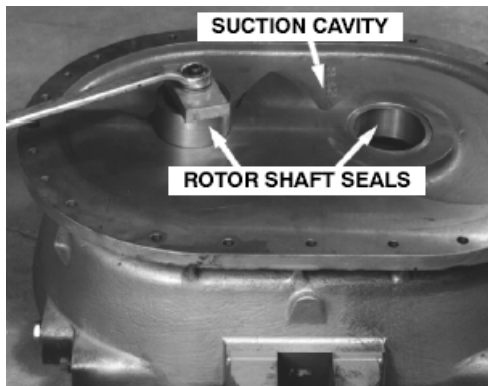
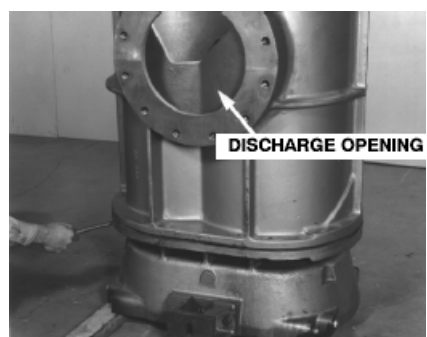

FIGURE 7-1 – ROTOR SHAFT SEAL
FIGURE 7-3 – DISCHARGE OPENING
1. Oil the O.D. of the rotor shaft seals (22, 23) to prevent seizure and press into each bore of the gear end bearing carrier (5) (FIGURE 7-1, page 41). NEVER REUSE SHAFT SEALS. Refer to "Rotor Shaft Seals," page 28, for an explanation. A simple press utilizing a bolt and two bars, one across the seal and one underneath across the bearing bore, is an effective method for installing the seal. Tightening the nut on bolt presses the seal into place. Press the seal .010" to .015" below the face of the carrier to prevent the end of the rotor from rubbing the end of the seal. A simple method is to place a .010" to .015" shim on the end of the seal under the press bar which will allow the seal to be pressed the correct distance below the face of the carrier. Handle the seal with care to prevent damage to babbitt lining.
3. Place .030" thick aluminum shim (26) on the gear end bearing carrier (5). The pointed section of the shim is positioned on the machined surface of the carrier to match the contour of the housing. Lower the housing (1), as level as possible, onto the carrier with the discharge opening up (Figure 7-3), and the inlet opening matching the cavity side (FIGURE 7-1, page 41), of the carrier. Engage the dowel pins (50) with matching holes in the carrier with care. Tighten the carrier to housing screws (56, 58) evenly so the dowel pins will not be damaged.